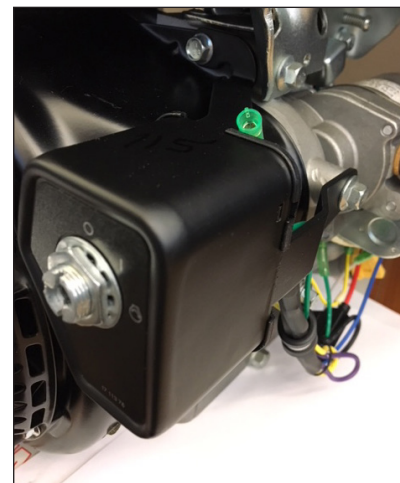

Figure 3. Mount New Key Box.
4. Mount the new key box. See Figure 3.